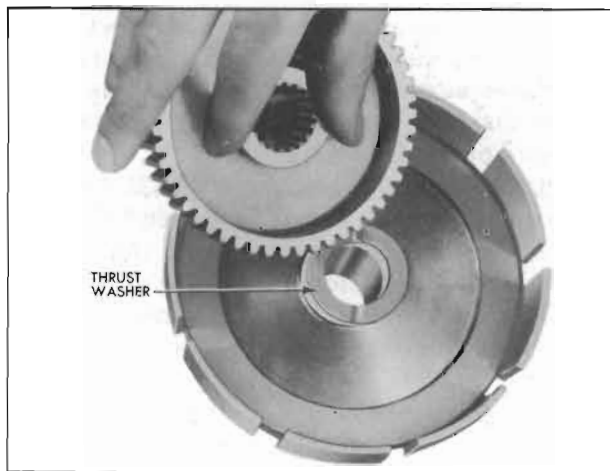

Figure 4-115—Installing Thrust Washer and Clutch Hub in Reaction Gear
3. Place reaction gear on bench with flange upward, then install clutch hub thrust washer and clutch hub over the hub of reaction gear, with open end of clutch hub facing up. See figure 4-115.